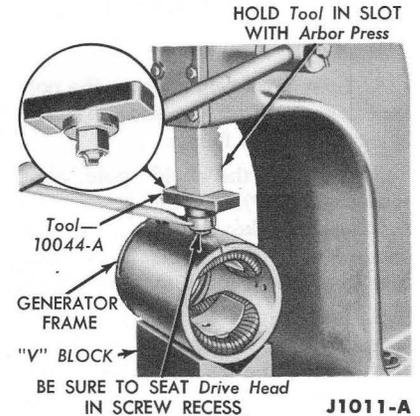

FIG. 9—Pole Shoe Screw Removal
4. Remove the dust shield. Remove the field and ground terminal screws from the generator frame, and unscrew the field pole shoe screws as shown in Fig. 9.
2. Tighten the field pole shoe screws (Fig. 9). As the screws are tightened, strike the frame several sharp blows with a soft faced hammer to seat and align the pole shoes.